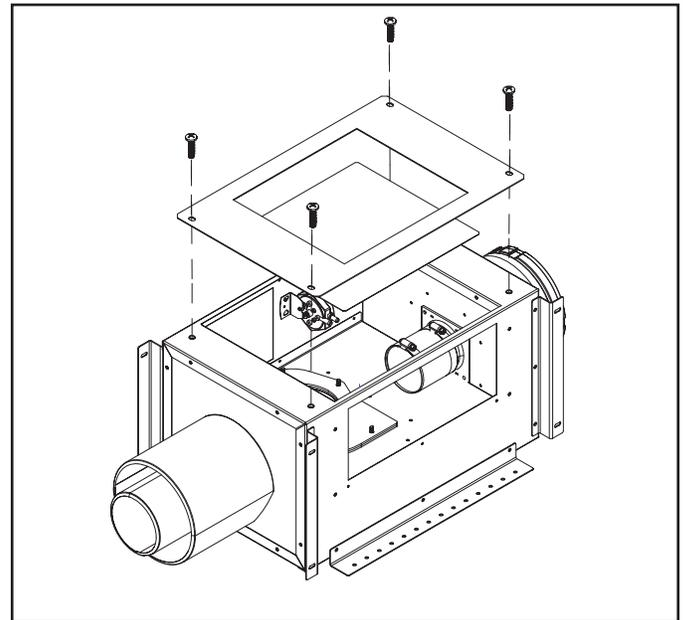

Figure 5.5 Maintenance Access
3. Motor: The fan motor bearings are sealed and no further lubrication is necessary. To access the motor, vacuum switch or pressure sense tube. Refer to Figure 5.5.